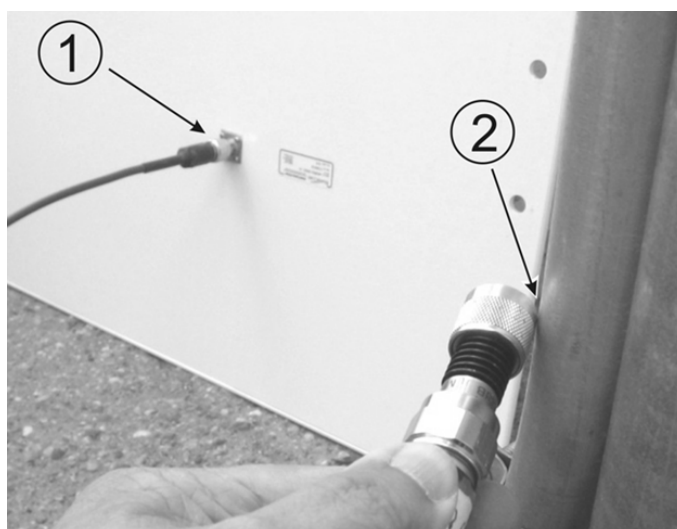

Figure 10 Short Load to Earth Ground
2. Connect the grounding RF cable to the antenna (Item 1 in Figure 10).
3. Short the outer metal case of the load or attenuator to Earth Ground for approximately 10 seconds (Item 2 in Figure 10). In this example, the operator is using the mounting pole that has been properly connected to Earth Ground.